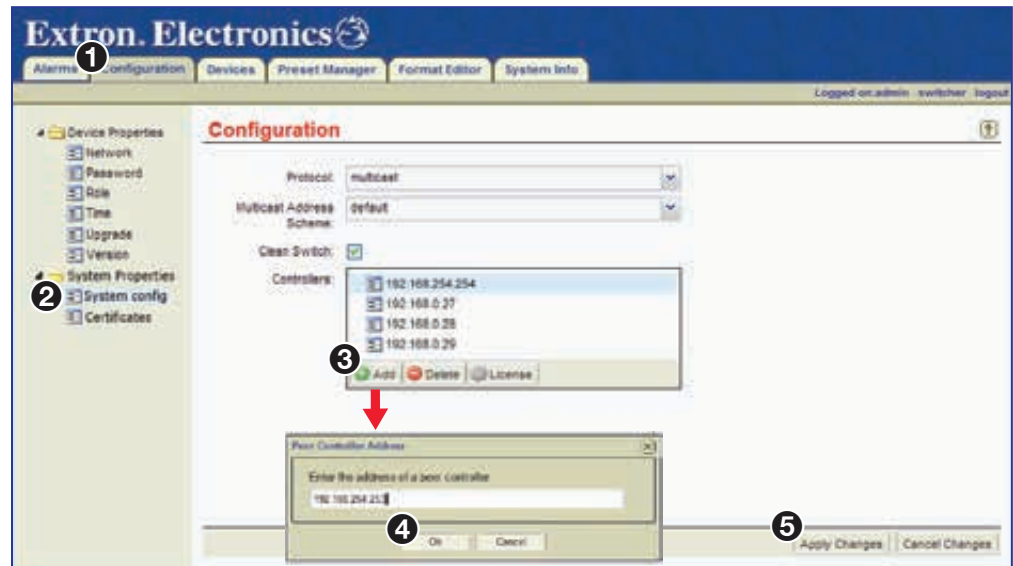

Figure 11. Configuration Page — Adding Controllers to the Controller List
The Configuration page opens (see figure 11, ①).
2. Click the **System config** link (see figure 11, ②).
3. Click **Add** (③). The Peer Controller Address (Add IP) dialog box opens.
4. Enter the IP address of this VNM EC 201 and click **OK** (④).